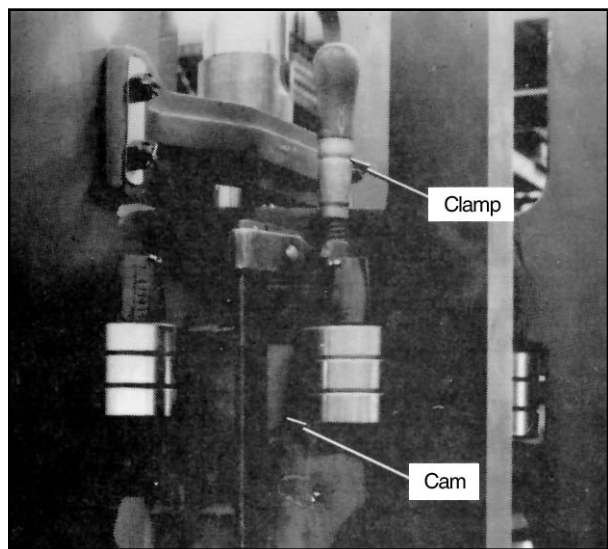

Figure 33
6. Apply a clamp to the assembly as shown in Figure 33.